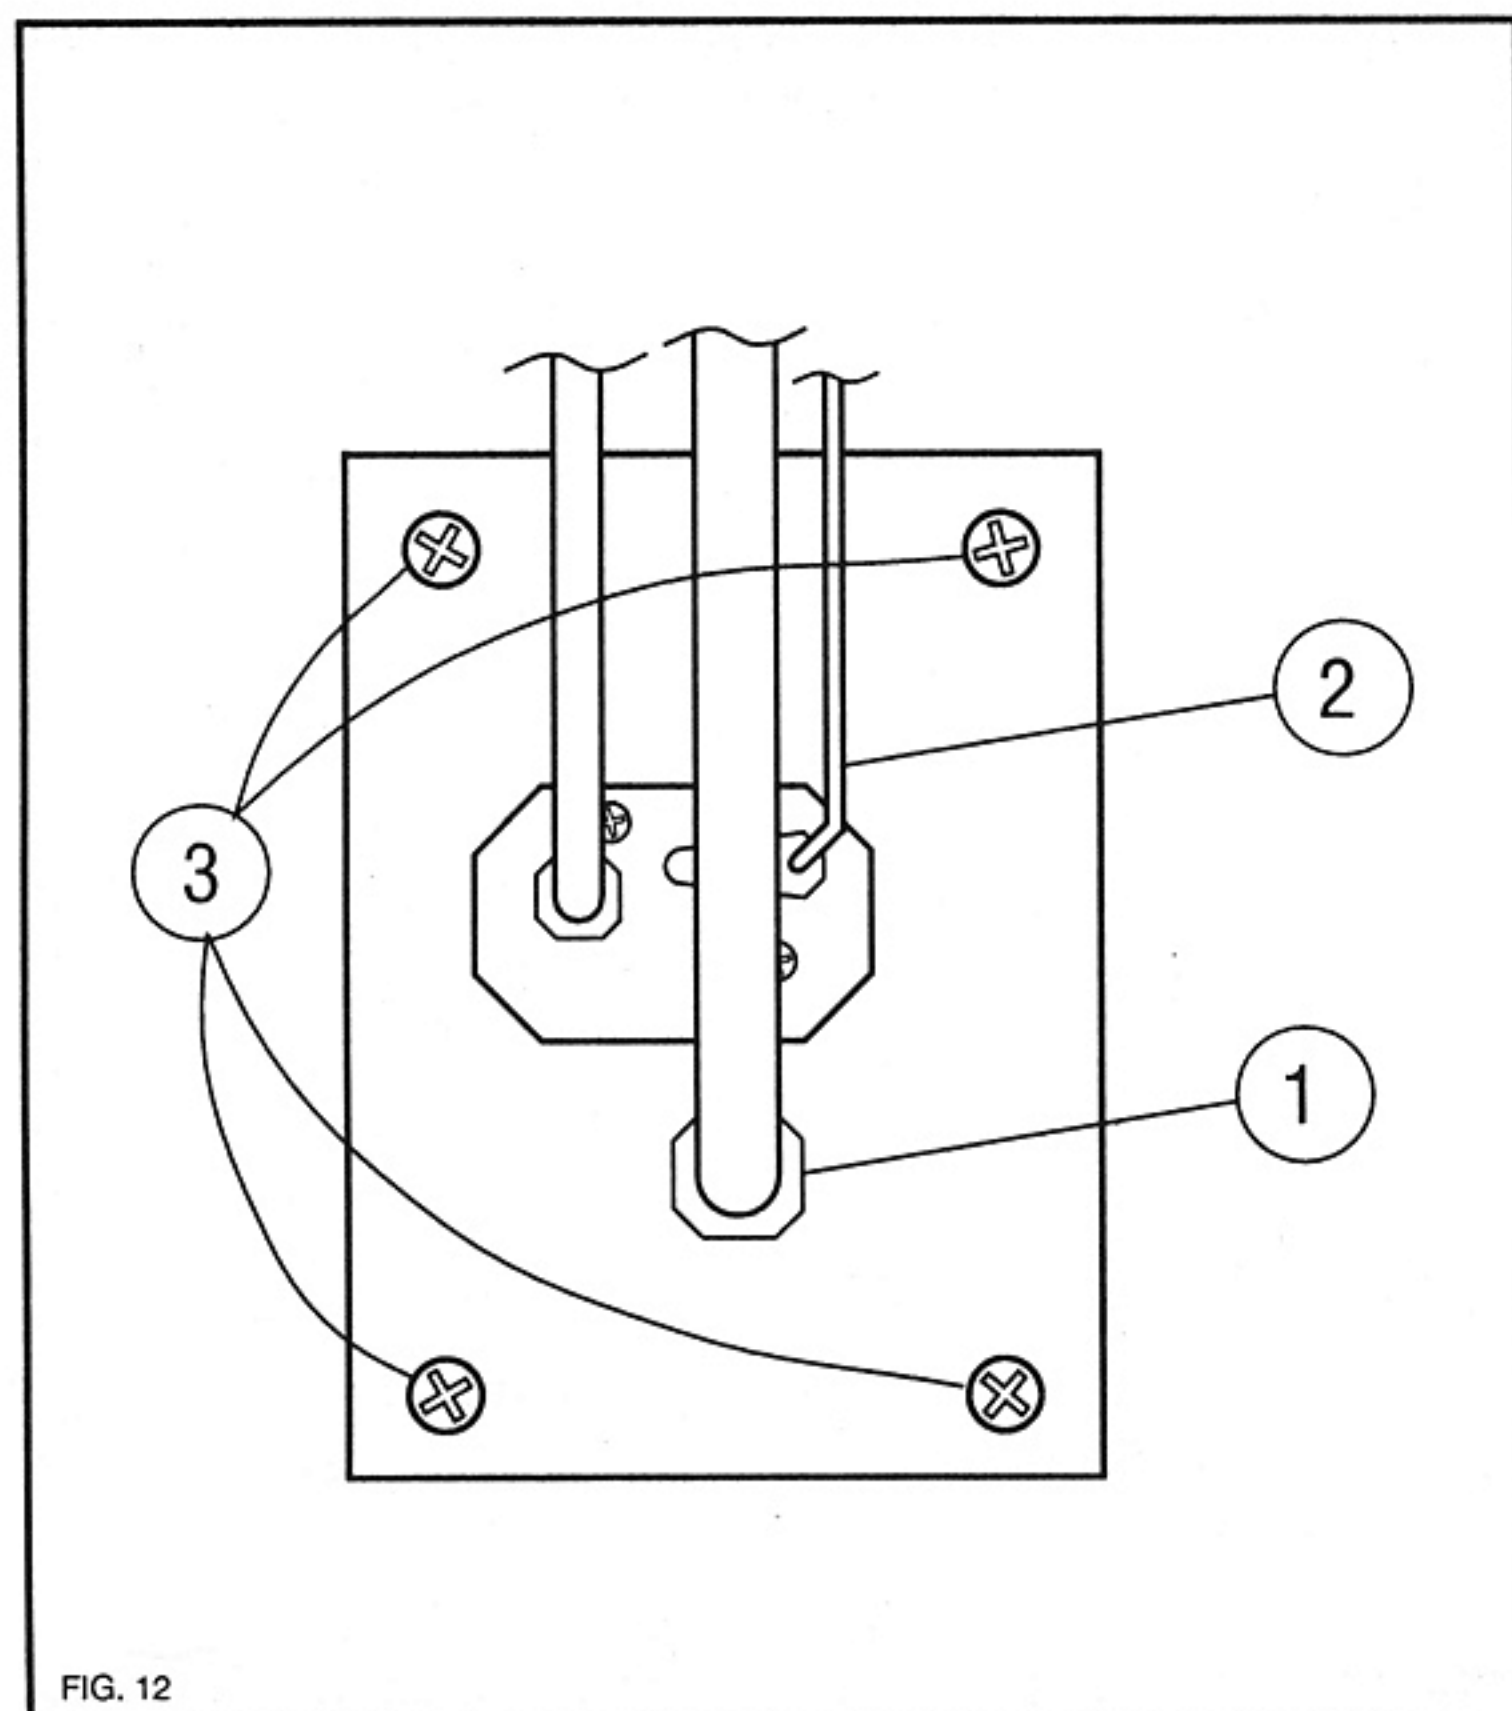

FIG. 12
6. The main burner and pilot burner can be removed from the unit for cleaning by first loosening the compression fittings that supply gas to both the main burner and pilot. **Note: Before removing either the pilot assembly or main burner assembly be sure to have replacement gaskets on hand. See paragraph #8. See Fig. 12.** After removing the compression nuts, unscrew the thermocouple (Fig. 12, item 2) from the base of the pilot and remove it from the pilot assembly. Remove the four screws which hold the main burner/pilot in place (Fig. 12, item 3), and withdraw the burner/pilot from the unit. First check the pilot for dirt, lint, or a black powdery carbon deposit. If any is noted, brush it off completely using a soft bristled brush or blow it out. Do not attempt to pass anything through the pilot orifice. Next, check the entire burner for dirt, lint or carbon deposits. Again, if any is noted, clean with a soft brush.